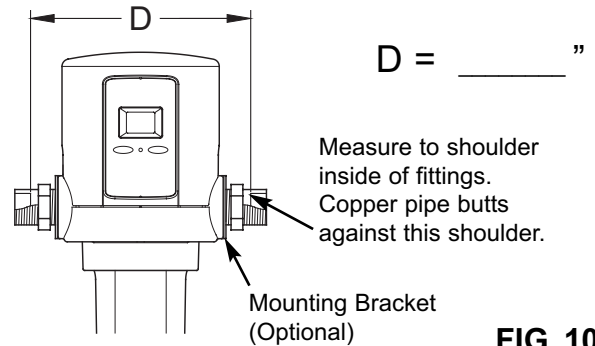

FIG. 10
3. Remove the nut and brass ferrule from both compression fittings and set aside. Using a tape measure or ruler, measure the distance "D" as shown in Figure 10). Mark this dimension at right so you do not forget.